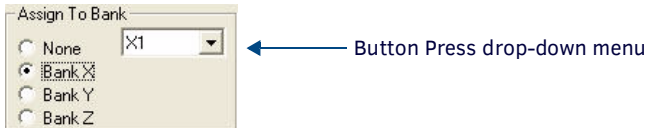

FIG. 101 Assign to Bank X, X1 selected
- Select **X1** from the Button Press drop-down menu (FIG. 101):